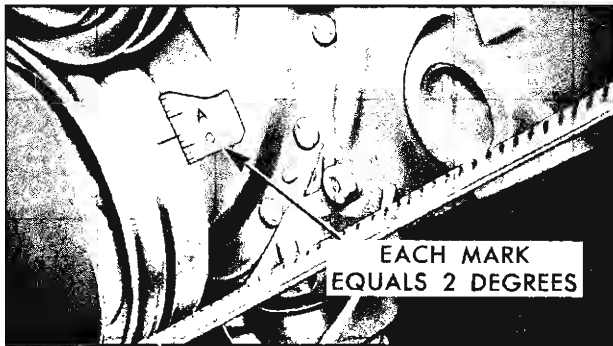

Fig. 32—Checking Eight Cylinder Ignition Timing
**NOTE:** When setting the ignition timing on V-8 engines it is essential that the mechanic correctly interpret the graduations of the timing tab attached to the engine front cover. On all engines, the markings on this tab are in two degree increments from the "0" marking (fig. 32). All timing tabs used are designed with the greatest number of graduations appearing on the advance ("A") side of the "0" marking. It is on this side of the timing tab "0" marking that all BTDC settings will fall.